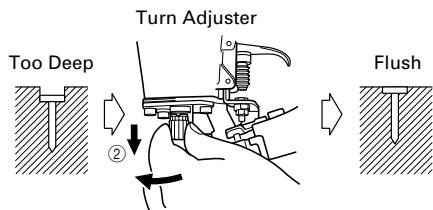

Fig. 9
- ② If nails are driven too deep, turn the adjuster counterclockwise while pulling it downward. When the adjuster is released, it returns upward. Furthermore, turn the adjuster until it reaches a position where it gets fixed with a clock. (Fig. 9)